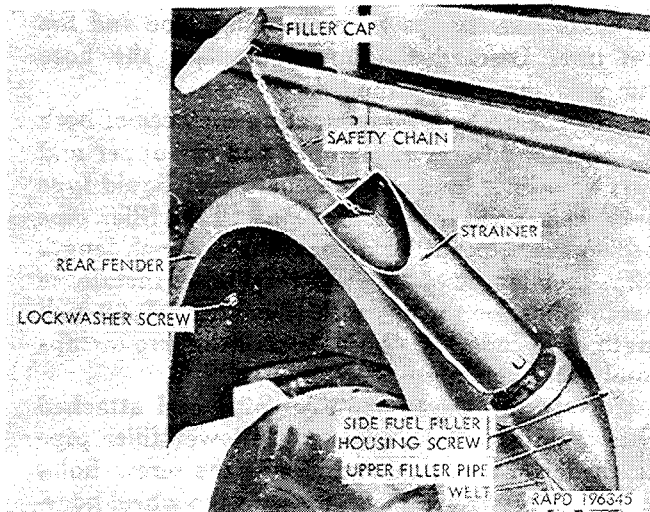

Figure 2-110. Fuel filler cap, strainer, and upper filler pipe.
c. Replace Filler Pipe Strainer and/or Cap. Remove the filler cap, unhook the safety chain, and remove the strainer from the filler pipe (fig. 2-110). Install a new strainer in the filler pipe, attach the safety chain to the cap, and install the cap.
(10) For the cargo truck M37, install the side fuel filler housing. Apply body sealing compound to the flanged edges of the housing, and install it in position. Install the five special screws that secure the housing to the rear wheel housing and the floor from the housing side, and install the three special screws that secure the housing to the body panel from outside the body (fig. 2-110). Install a lockwasher and nut on each screw and tighten all nuts.